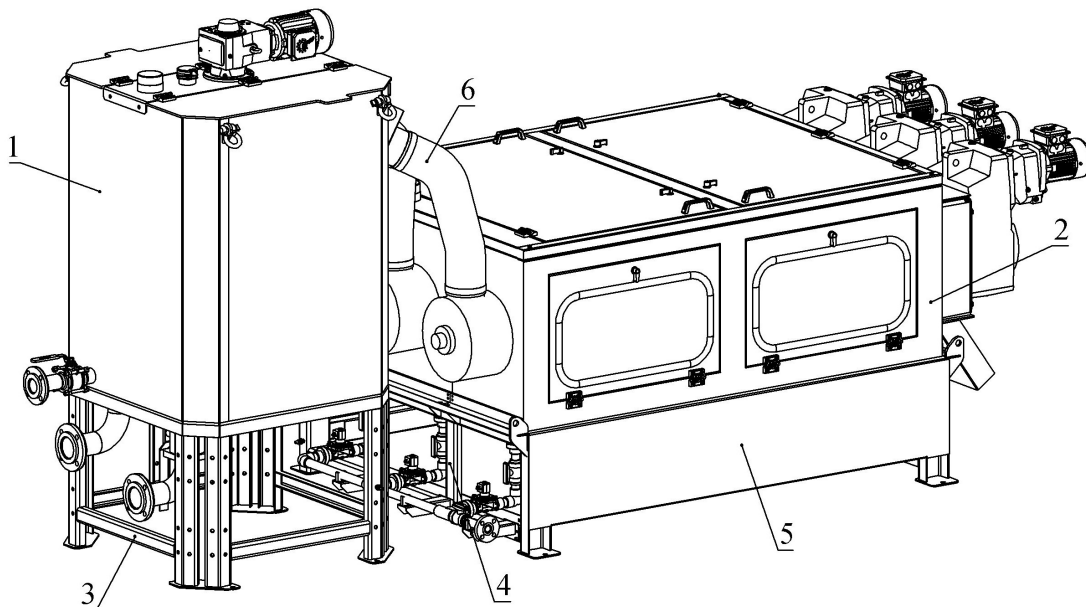

Fig. 1. Main components of the screw press:
The screw press consists of two main parts – the mixing tank (Fig. 1, pos. 1) and dewatering drum(-s) (Fig. 1, pos. 2). Larger units have separate frame-bases (Fig. 1, pos. 3, 4) for each part, while smaller ones are mounted on a common frame base. Side walls of the filtrate collection tray (Fig. 1, pos. 5) are an integral part of the frame-base of the dewatering drum(-s).
The mixing tank and dewatering drum(-s) are connected with feed tube(-s) (Fig. 1, pos. 6).
Chemically conditioned sludge enters the dewatering drum(-s) through the feed tube(-s) (Fig. 1, pos. 6).